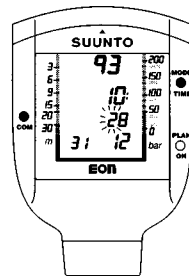
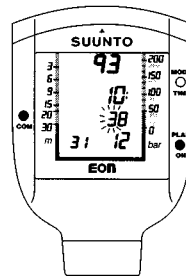

Fig. 4.18 TIME SETTING
Fig. 4.19 TIME SETTING
3. To scroll through the minute, month, date, and year, keep the TIME/MODE and COM contacts connected. Release your fingers when the desired display is blinking (Fig. 4.18). Repeat step 2 to change this value (Fig. 4.19).